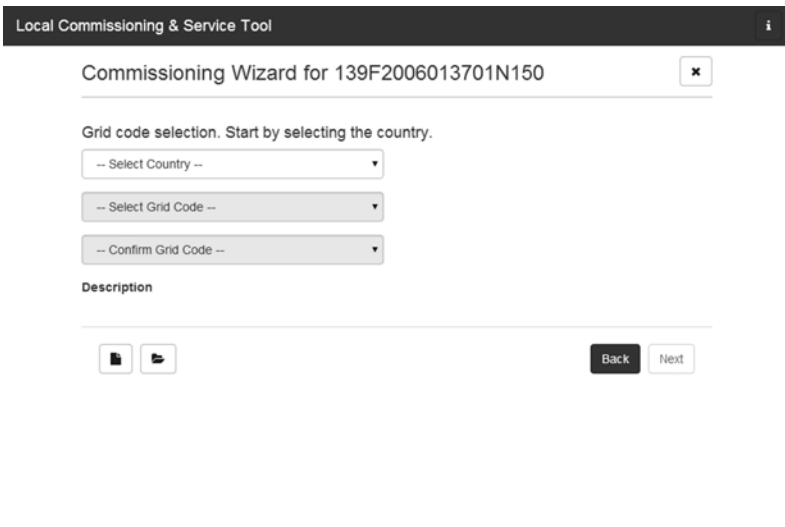

Figure 12: LCS-Tool - selecting the country and grid code
7. Select the desired country from the list of options available for the inverters in the network (see figure 12).
8. Select the desired grid code from the list of options available for the selected country. If necessary, load a customer specific grid code by clicking the button **[Load]** (see figure 12). The button **[Create]** is inactive and cannot be used.